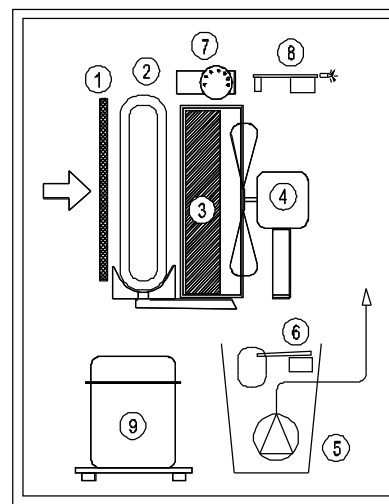

Fig. 3
Fig. 3 refers to the machine provided with lifting pump, which includes a water collection tank (5) and a floating b all stopping device